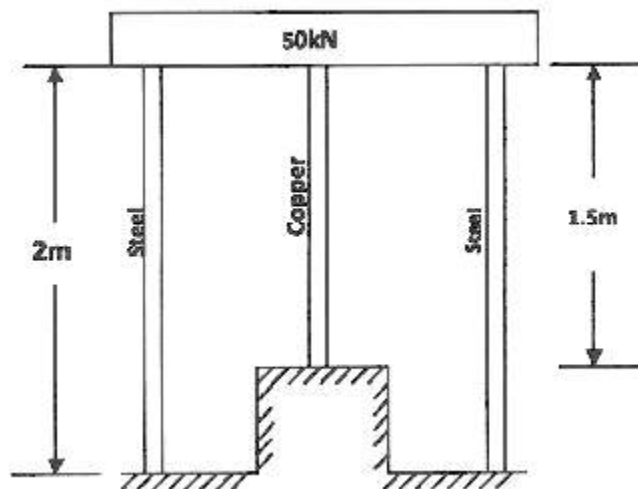

Fig. 2
- (b) Two steel rods and one copper rod each of 20 mm diameter together support a load of 50 kN as shown in Fig. 2. Find the stresses in each rod. Take $E = 200 \text{ GPa}$ for steel and $E = 100 \text{ GPa}$ for copper respectively. [10]